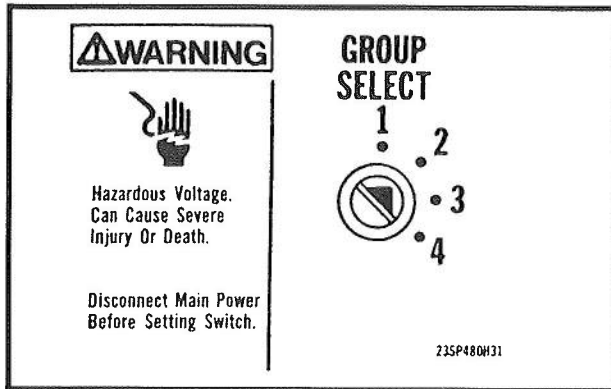

Figure 6 — Horizontal Rack Switch
Step 2 — Refer to system drawings and determine in which I/O rack the module is to be installed. Set the rack switch (Figure 6) to the proper position for a Register Input Module (Table C).